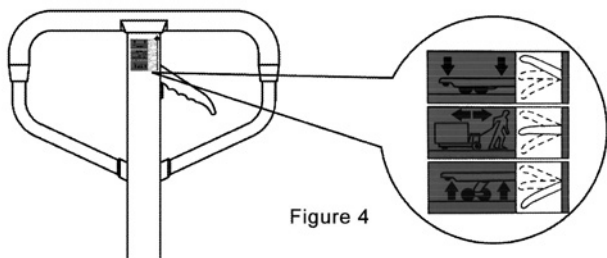

Figure 4
On the handle of the pallet truck, you will find the control lever (81) which can be set in three positions (See Fig. 4): LOWER=to lower the forks; NEUTRAL=to move the load; ASCENT=to raise the forks. After assembling the handle, you can adjust the three positions.
- 3.1 First tighten the setting screw (59) on the cam (56) until the LOWER position function works.